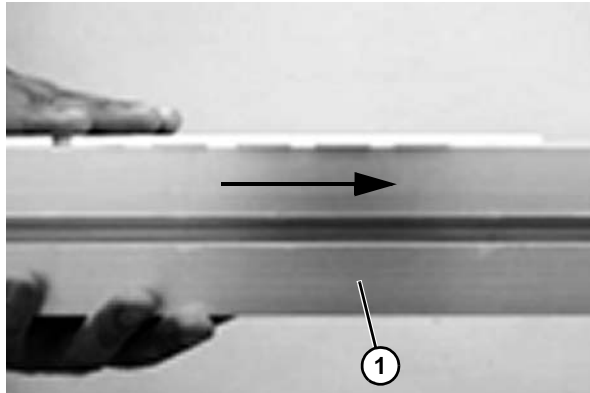

Figure 56
2. Feed the chain along the conveyor (**Figure 56, item 1**) by pulling it through the idler unit and back to the drive unit.